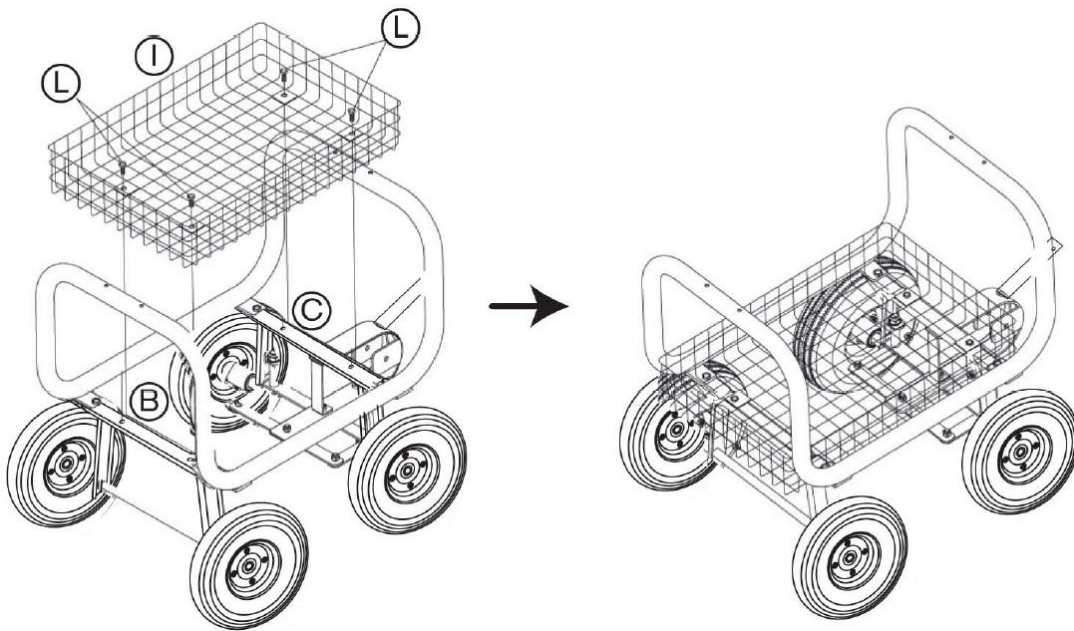

Figure 3
3. See Figure 3. Place the basket (I) on the top surface of the front axle (C) and rear axle (B) and secure with four M8 x 20mm screws and nuts (L).